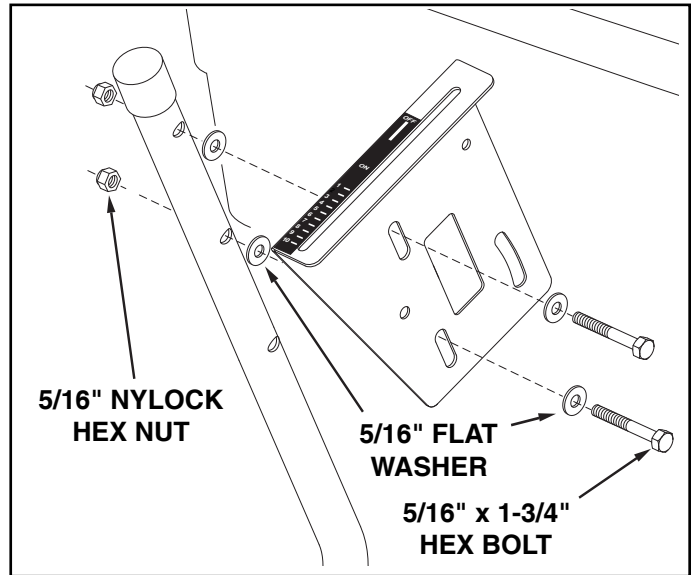

FIGURE 7
- Assemble the flow control mounting bracket to the flow control mounting tube using two 5/16" x 1-3/4" hex bolts, four 5/16" flat washers and two 5/16" nylock hex nuts. **DO NOT TIGHTEN YET.** See figure 7.